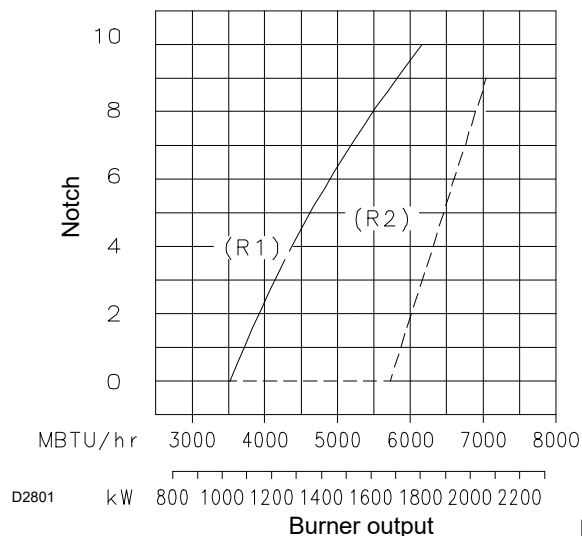

Fig. 16
In diagram (Fig. 16) find the notch for:
If we consult diagram (Fig. 16) we find that for this output the adjustments are:
R2 adjustment (Fig. 16) is an indication only.
- combustion head adjustment as indicated in Fig. 16, page 20.